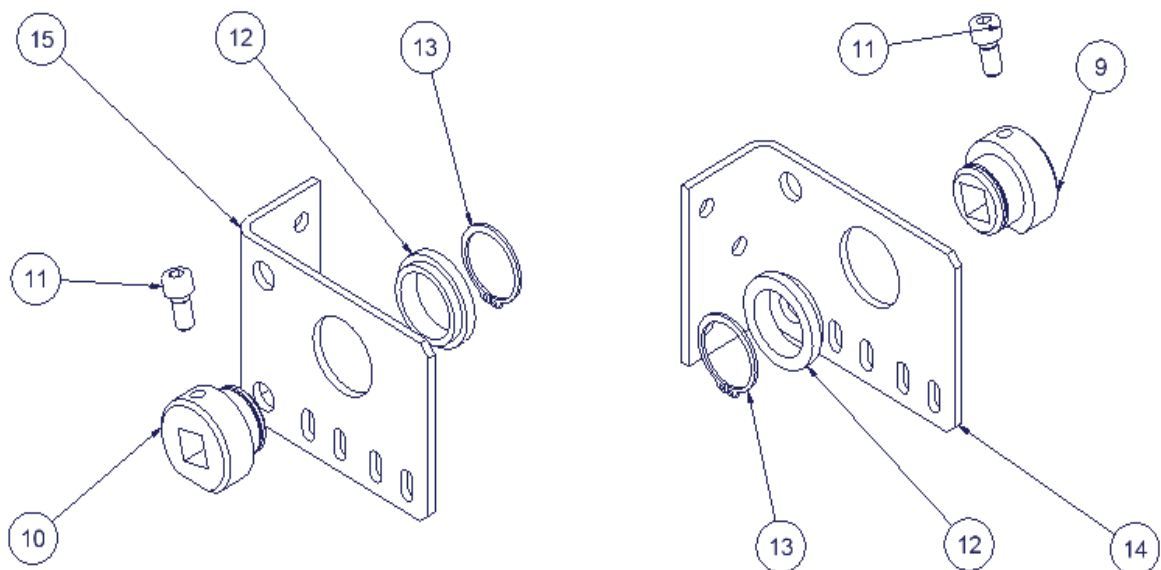

Figure.4
It must be taken in care during the assembly the fact that the left mounting plate (15) is different than the right one (14). The left support cap (10) is also different than the right one (9). The grooves of the mounting plate will be always at the lower part and its fold will remain parallel to the axle in order to screw together the driving bar and the lift sling (See Fig. 4). The plane face of the support caps must remain parallel to the plate grooves and the thread must always look to the lift sling as it is shown at figure 4. The other components can be used either in one side or in the other side.
The nylon tips (**12**) must be introduced in each mounting plate in the way shown at Fig.4, later on, the support caps must be inserted from the opposite side, joining them (with the help of stright-end pliers) through a security ring (**13**). Finally, an M8 x 16 DIN 912 8.8 screw (**11**). Must be introduced in each cap. The whole process is shown at figure.4.